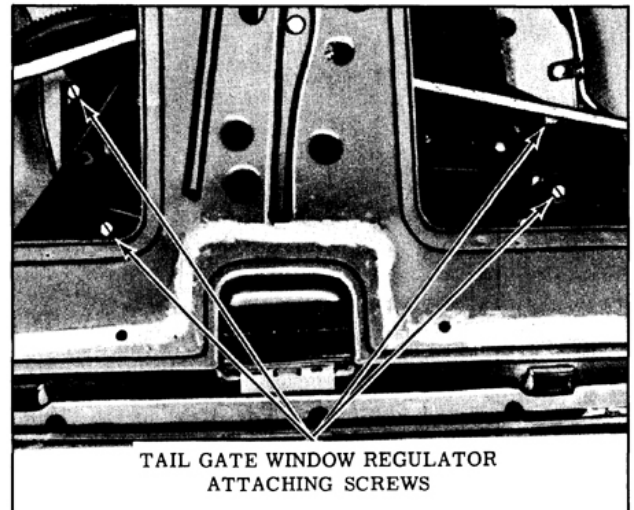

Fig. 16-212 Regulator Removal
2. To correct a condition where the glass is cocked in the glass run channels, loosen window regulator attaching screws, rotate regulator assembly clockwise or counterclockwise, as required, to eliminate cocked condition. (Fig. 16-212)
5. Remove regulator attaching screws. (Fig. 16-212) Remove regulator assembly through access hole.